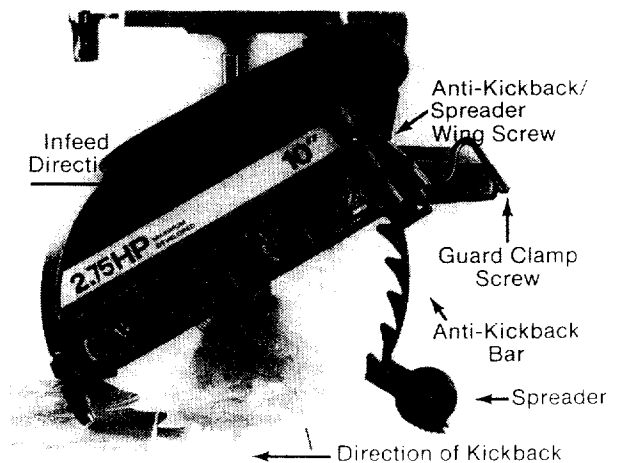

Fig. 134 - Blade Guard Position for Ripping
6. Loosen the guard clamp screw and rotate the guard until the guard nose just clears the workpiece. (Figure 134)